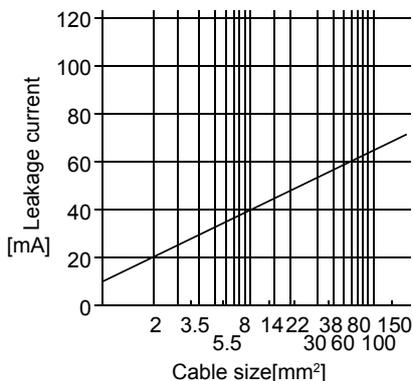

Fig. 14.1 Leakage Current Example (Ig1, Ig2) for CV Cable Run in Metal Conduit
- Ig1: Leakage current on the electric channel from the leakage current breaker to the input terminals of the servo amplifier (Found from Fig. 14.1.)
- Ig2: Leakage current on the electric channel from the output terminals of the servo amplifier to the servo motor (Found from Fig. 14.1.)